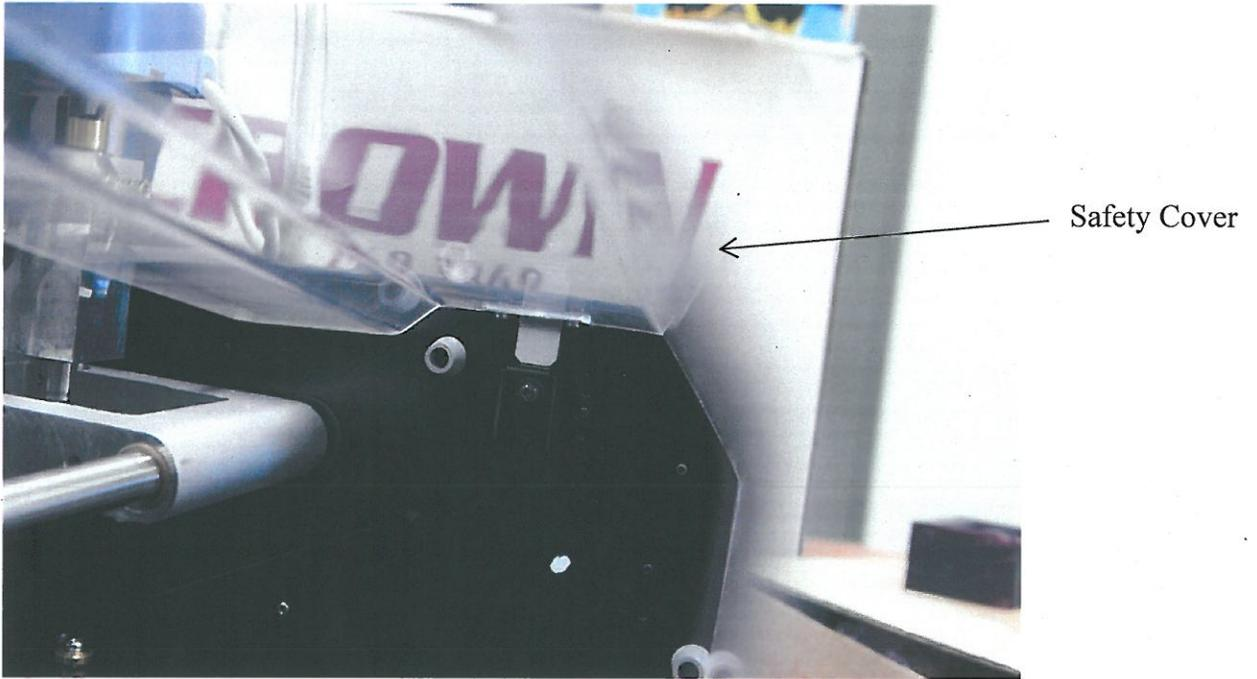

Figure 3: Safety Cover being Removed
2. Remove the Safety Cover (Figure 3).